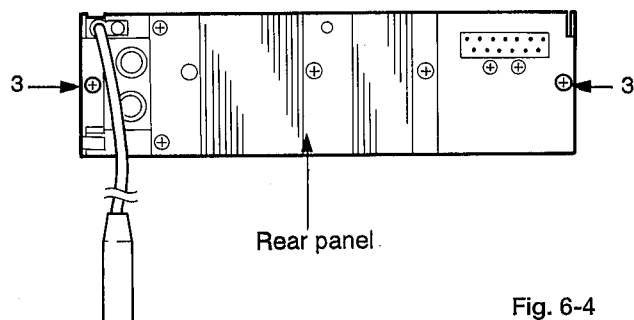

Fig. 6-4
■ Removal of main P. C. board assembly (Figs. 6-4, 6-5)